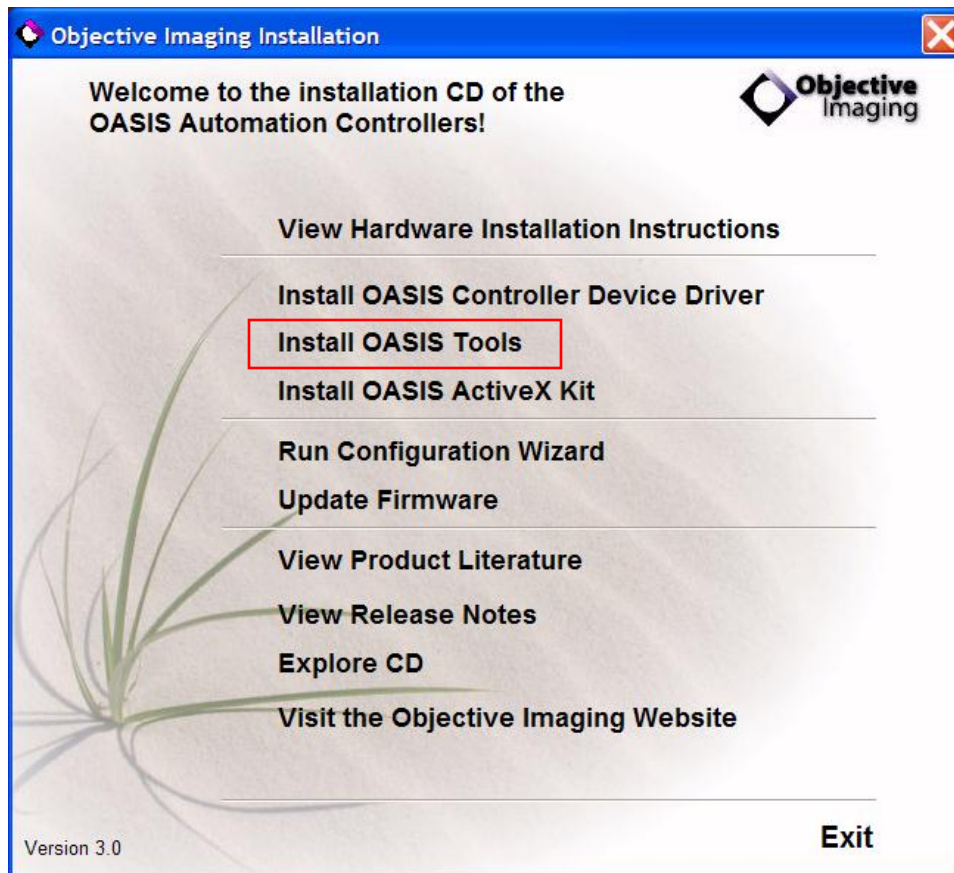

Figure 1. OASIS Installation Screen.
2. Choose to Install OASIS Tools (see Figure 1).